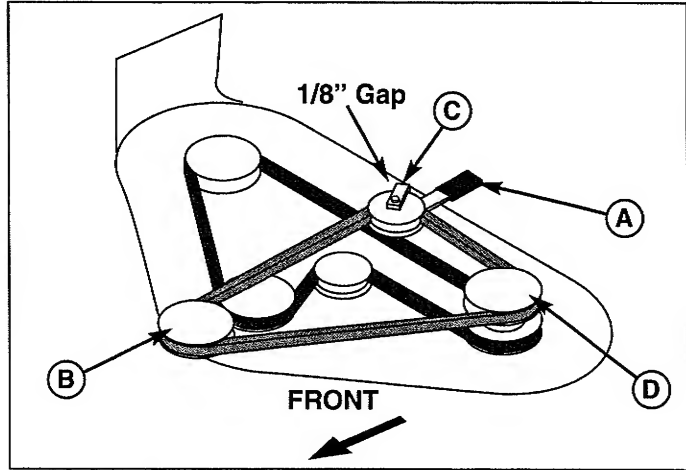

Figure 54. Mower Belt Routing
2. Move the idler arm (A, Figure 54) to relieve belt tension. Drop the belt from the PTO (electric clutch) pulley.
3. Loosen the nut and lockwasher securing idler pulley belt guide (C, Figure 54).
6. See Figure 54. Position the idler pulley belt stop (C) in its original position so that there is a 1/8" (3mm) gap between the pulley and belt stop.